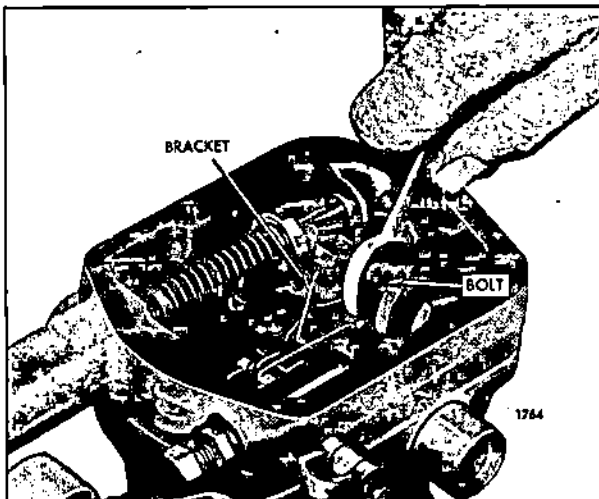

Fig. 17 - Speed Droop Adjustment
4. Refer to Fig. 17 and loosen the speed droop adjusting bolt. Move the speed droop adjusting bracket so the bolt is midway between the ends of the slot in the bracket. Tighten the bolt.